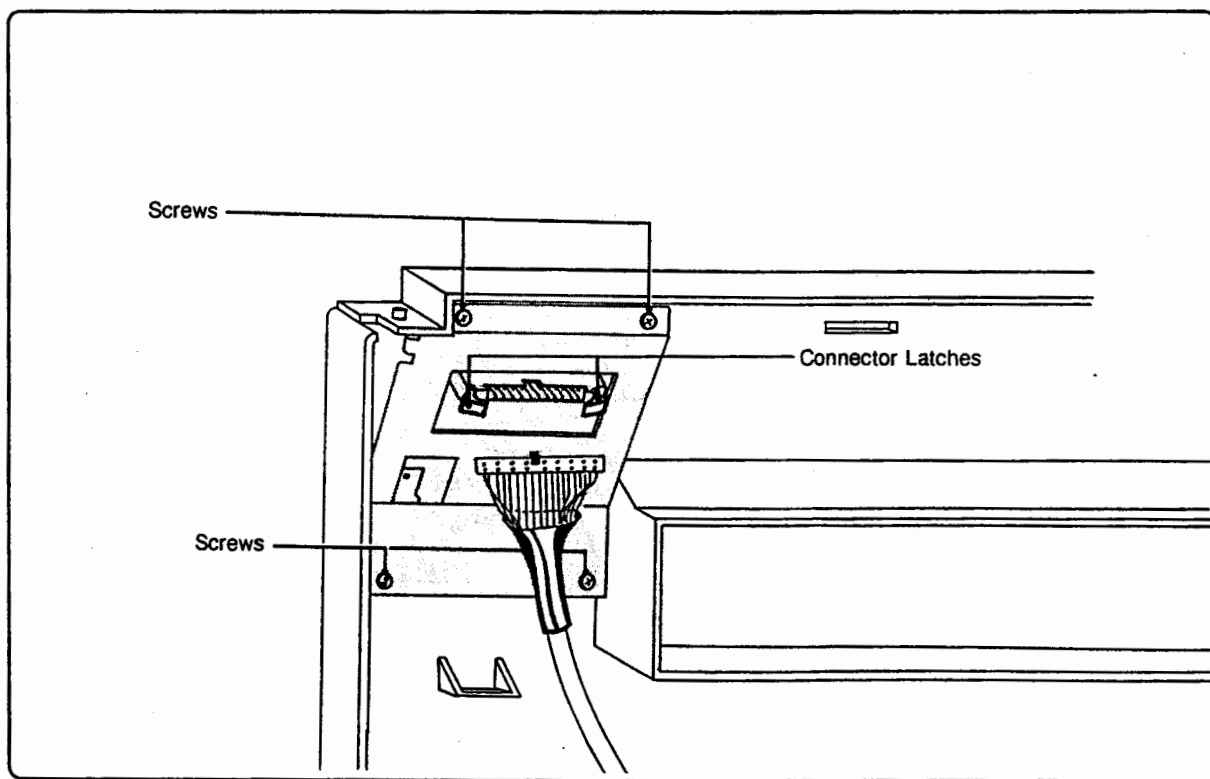

Figure 6-10. Control Panel Removal
2. Remove the screws (4) securing the Control Panel to the front cover panel (see Figure 6-10).